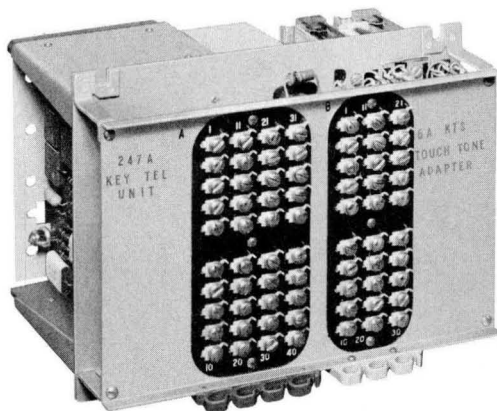

Fig. 5—247A KTU TOUCH-TONE Adapter, Rear View
1.02 This section is reissued to revise Fig. 5, 6, 9, 12, 14, 16, and 17.
Fig. 5—202C or D, or 230A or B KTUs with 232-Type, 30A and 227B KTUs for Line Pickup and Hold, Line and Busy Lamps, Interrupted Audible Signals, Common Audible Signals, Auxiliary Timeout, Lamp Wink, and Manual Intercom